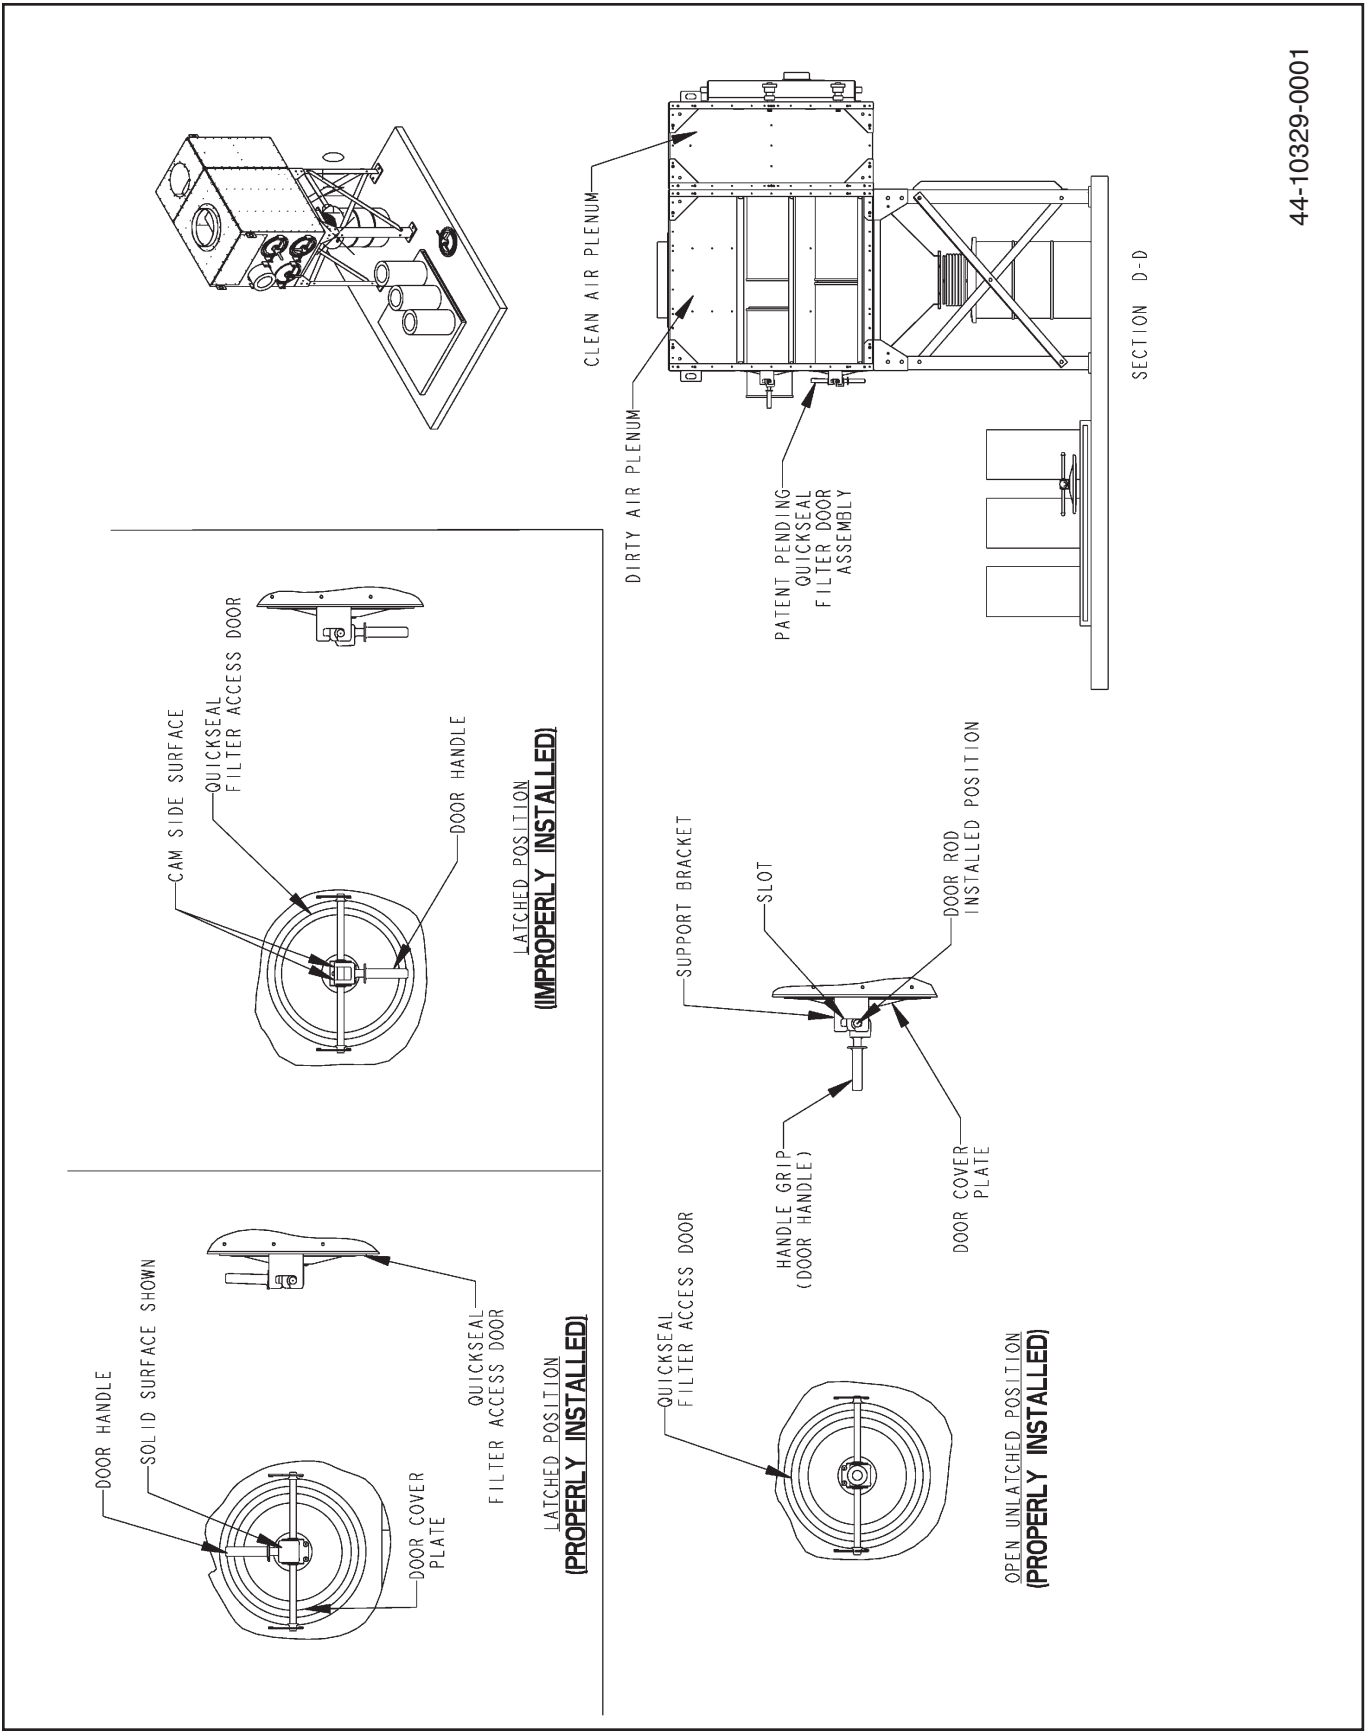

FIGURE 17
1. Read and follow caution instructions in box above before servicing your unit. Start with the top row of QuickSeal doors. (Figure 17)
6. Install new ProTura® Nanofiber cartridges into each filter compartment, gasket end first. Clean the filter door gaskets and align with door rod support brackets on the dust collector. Door handle must be placed at a 90° angle to filter access door prior to placing the door cover plate support rod in the support brackets (refer to Figure 17). The flat surface of the door handle should be facing downward. To close the filter access door, push the door handle upward, toward the unit.
<p>The QuickSeal filter access door handle must be in a perpendicular orientation to door surface prior to being closed. A flat solid section of door handle will be visible when door assembly is in the properly closed position. Refer to Figure 17.</p> <p>If cam surface of the door handle is visible, QuickSeal filter door assembly has been improperly installed.</p>